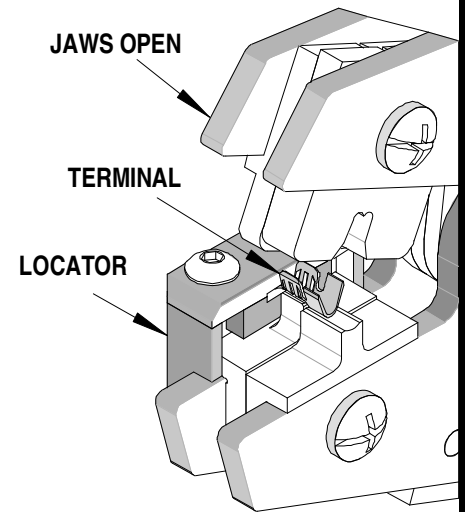

Figure 1
1. Position the terminal onto the nest and push the ring of the terminal inside the locator until it stops. See Figure 1.